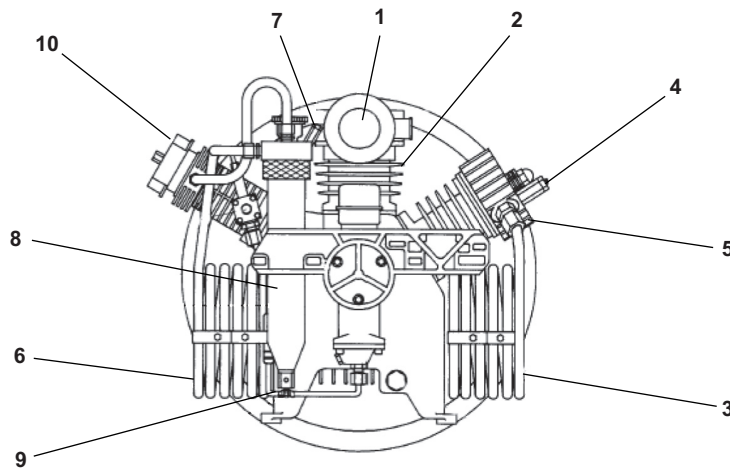
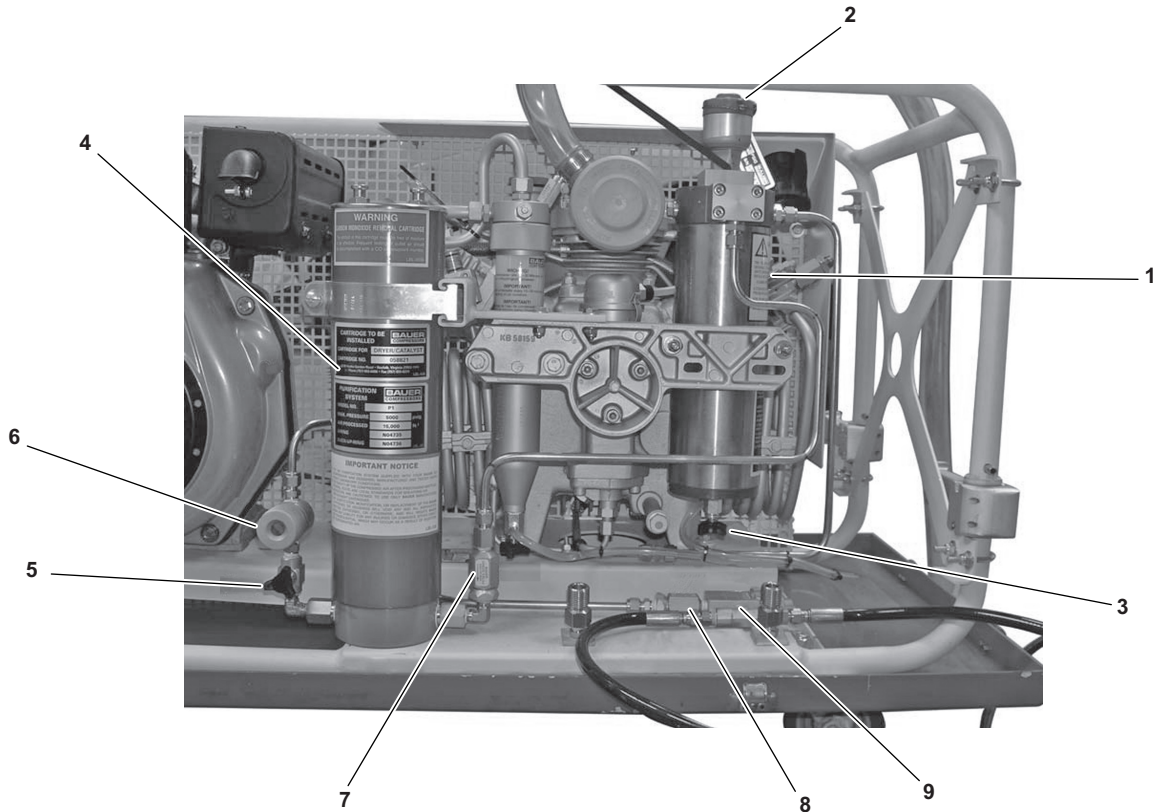

Figure 3-3. E-BAC/SS Compressor Block, Front View
Figure 3-4. E-BAC/SS Purification System
Air is drawn through the intake filter (figure 3-3, item 1) which removes particulates as small as 10 microns before entering the first stage cylinder (figure 3-3, item 2).
The 1st stage cylinder (figure 3-3, item 2), receives the uncompressed air from the intake filter (figure 3-3, item 1) and compresses it to 90-95 PSI. The air then enters the 1st stage intercooler (figure 3-3, item 3).
The 1st stage intercooler (figure 3-3, item 3) is coiled tubing. Compressed air from the 1st stage cylinder (figure 3-3, item 2) is cooled as it flows through the coiled tubing and remains pressurized. The 1st stage safety relief valve (figure 3-3, item 4), set at 116 PSI (± 6 PSI) relieves excess pressure should over-pressurization occur within the 1st stage of compression. This safety relief valve is located on top of the 2nd stage cylinder (figure 3-3, item 5).
The cooled, compressed air from the 1st stage intercooler (figure 3-3, item 3) enters the 2nd stage cylinder (figure 3-3, item 5) and is further compressed to 640-680 PSI.
The 2nd stage intercooler (figure 3-3, item 6) is coiled tubing. The compressed air from the 2nd stage cylinder (figure 3-3, item 5) is cooled as it flows through the 2nd stage intercooler and remains pressurized when entering the intermediate separator. The 2nd stage safety relief valve (figure 3-3, item 7), set at 725 PSI (± 36 PSI) relieves excess pressure should over-pressurization occur and is located on top of the intermediate separator (figure 3-3, item 8).
The intermediate separator (figure 3-3, item 8) is a moisture separator. The compressed air from the 2nd stage intercooler (figure 3-3, item 6) enters the intermediate separator where moisture is removed. To prevent equipment damage, the condensate drain (figure 3-3, item 9) on the bottom of the intermediate separator must be opened for a few (4-6) seconds after every 15 minutes of E-BAC/SS operation.
The compressed air enters the 3rd stage cylinder (figure 3-3, item 10) where it will be compressed to 4,500 PSI.
The aftercooler is fan-cooled coiled tubing which cools the compressed air as it flows from the 3rd stage cylinder (figure 3-3, item 10) to the final separator (figure 3-4, item 1). The 3rd stage safety valve (figure 3-4, item 2) set at 4,950 PSI (± 250 PSI) controls the pressure throughout the 3rd stage of compression and is located on the top of the final separator housing.
The final separator (figure 3-4, item 1) removes any remaining moisture and oil from the compressed air. To prevent equipment damage, the condensate drain (figure 3-4, item 3) on the bottom of the final separator must be opened for a few (4-6) seconds after every 15 minutes of E-BAC/SS operation.
The P1 purification chamber (figure 3-4, item 4) consists of a purification cartridge which contains a 3-layer purification system. A top layer of catalyst, a middle layer of activated carbon, and a bottom layer of molecular sieve; each layer is separated by a sponge filter. This system removes any impurities. Routine maintenance of the P1 purification chamber is imperative to ensure proper purification of the compressed air so contaminants do not enter SCBA cylinders during charging.
The P1 bleed valve (figure 3-4, item 5) is positioned after the compressed air leaves the P1 purification chamber (figure 3-4, item 4) and just before the CO/H₂O indicator (figure 3-4, item 6). This valve is opened only when changing the purification cartridge.
A check valve (figure 3-4, item 7) between the final separator (figure 3-4, item 1) and the P1 purification chamber (figure 3-4, item 4) ensures air does not travel back to the final separator. A second check valve (figure 3-4, item 8) just before the pressure maintaining valve (figure 3-4, item 9) ensures no compressed air leaks backwards into the P1 purification chamber.
3.2.1.12 CARBON MONOXIDE (CO) AND MOISTURE (H₂O) INDICATOR
The CO/H₂O indicator (figure 3-4, item 6) is located just after the compressed air exits the P1 purification chamber (figure 3-4, item 4). It provides a visual alert if the compressed air is contaminated with CO and/or H₂O. If CO exceeds acceptable levels in the compressed air, the CO portion of indicator element will change in color from tan to dark brown. If H₂O content exceeds acceptable levels in the compressed air, the H₂O portion of indicator element will change from blue to pink.
The pressure maintaining valve (figure 3-4, item 9) is factory-set at 2,175 PSI. This valve will not release air to the fill hose assembly if back pressure is less than 2,175 PSI.